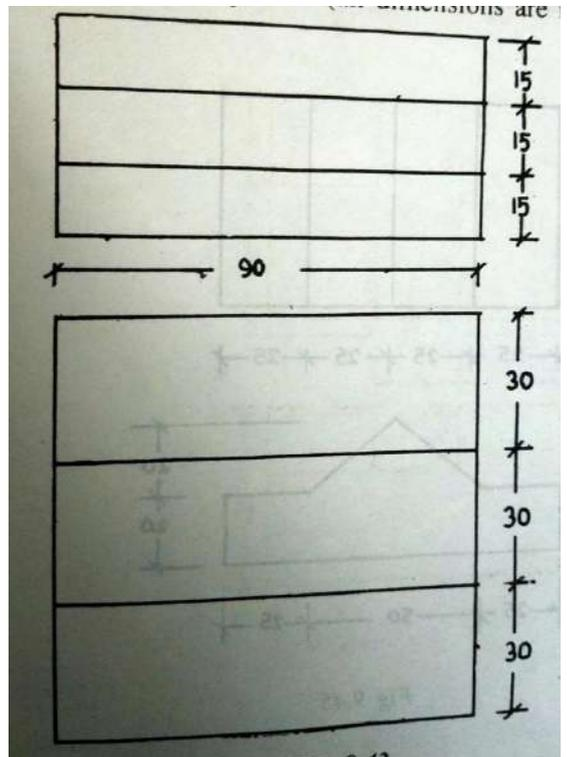

Fig.4
6. Draw the Isometric view of the model of steps, two views of which are shown in **Fig. 4**.